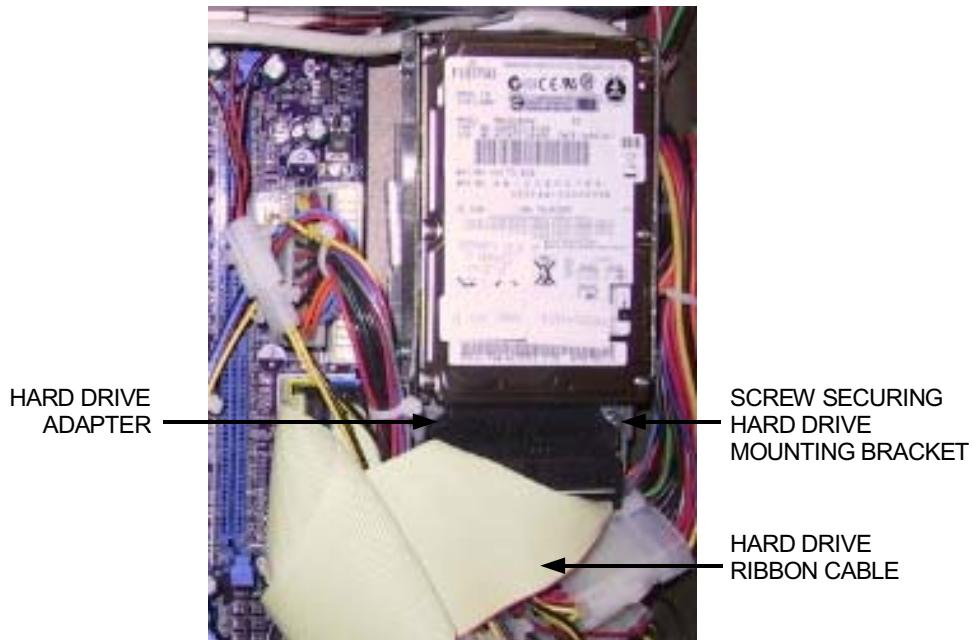

FIGURE 3 - NON-QUICK-CLICK HARD DRIVE REMOVAL
4. Remove the single screw securing the hard drive mounting bracket to the underlying mounting plate. See Figure 3.
2. Slide the new hard drive assembly onto the hard drive mounting plate and secure it in place with a single screw (Figure 3).